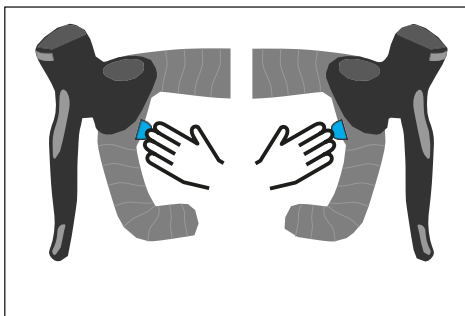

Fig. 4: Selection of the assist mode on the HPR Single Button Remote
- With a **short** press on the right button of the HPR Single Button Remote (see Fig. 4) or with the optional button of an electric gear shifting (see “3.8.2 Gear shift” & “3.8.3 Riding range”) you increase the assist mode.
- With a **short** press on the left button of the HPR Single Button Remote (see Fig. 4) or with the optional button of an electric gear shifting (see “3.8.2 Gear shift” & “3.8.3 Riding range”) you decrease the assist mode.